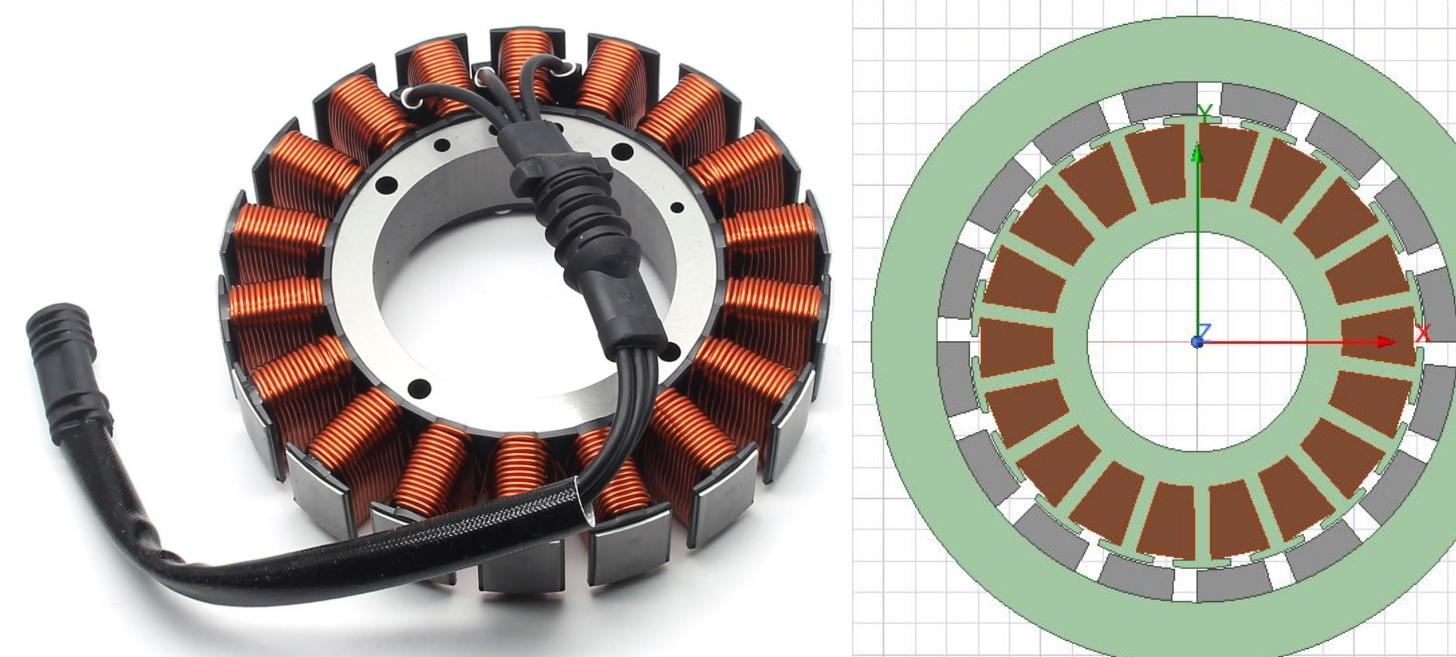

Figure 4. Selected Stator Core and its Ansys Equivalent
- Motor core selection to build design around [Figure 4]. Based upon power and torque requirement calculations: ~1kW 75 Nm max draw.
- Members installed and learned Ansys Maxwell software for electromagnetic device simulation. Also pictured in Figure 4.